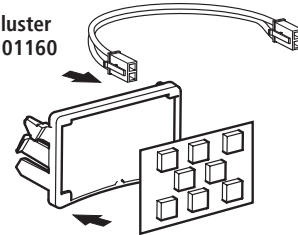

Fig. 66
- Disconnect power cord from operator (Fig. 66).